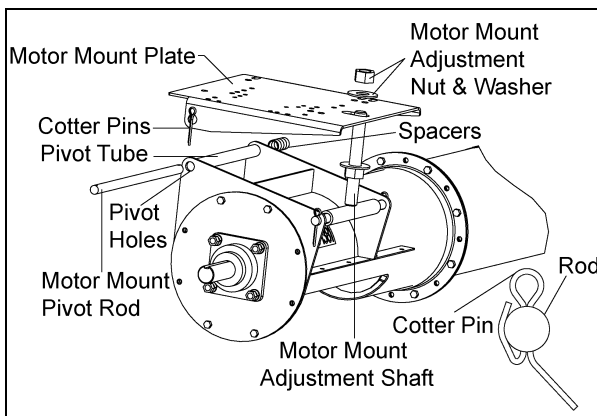

Figure 4K
- A. Secure one (1) of the motor mount adjustment nuts and one (1) the motor mount adjustment washers approximately 3/4 of the way down the motor mount adjuster's threaded shaft.
- B. Once the nut and washer is secure, slip the Motor Mount Plate over the adjuster and align the pivot holes with the pivot tube. (See Figure 4K)